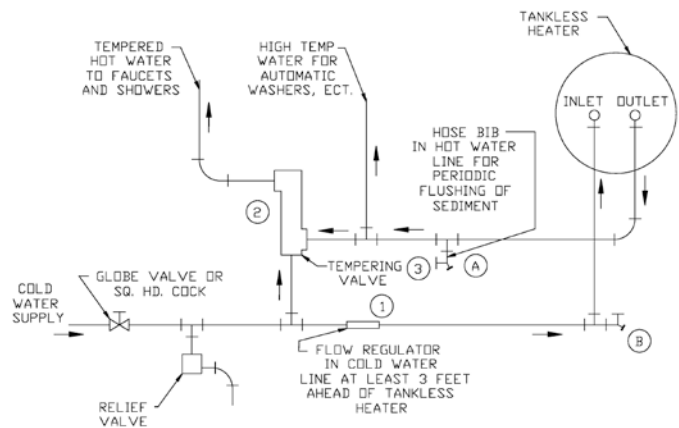

Figure 28: Tankless Heater Piping
F. Tankless Heater (if used). See Figure 28.